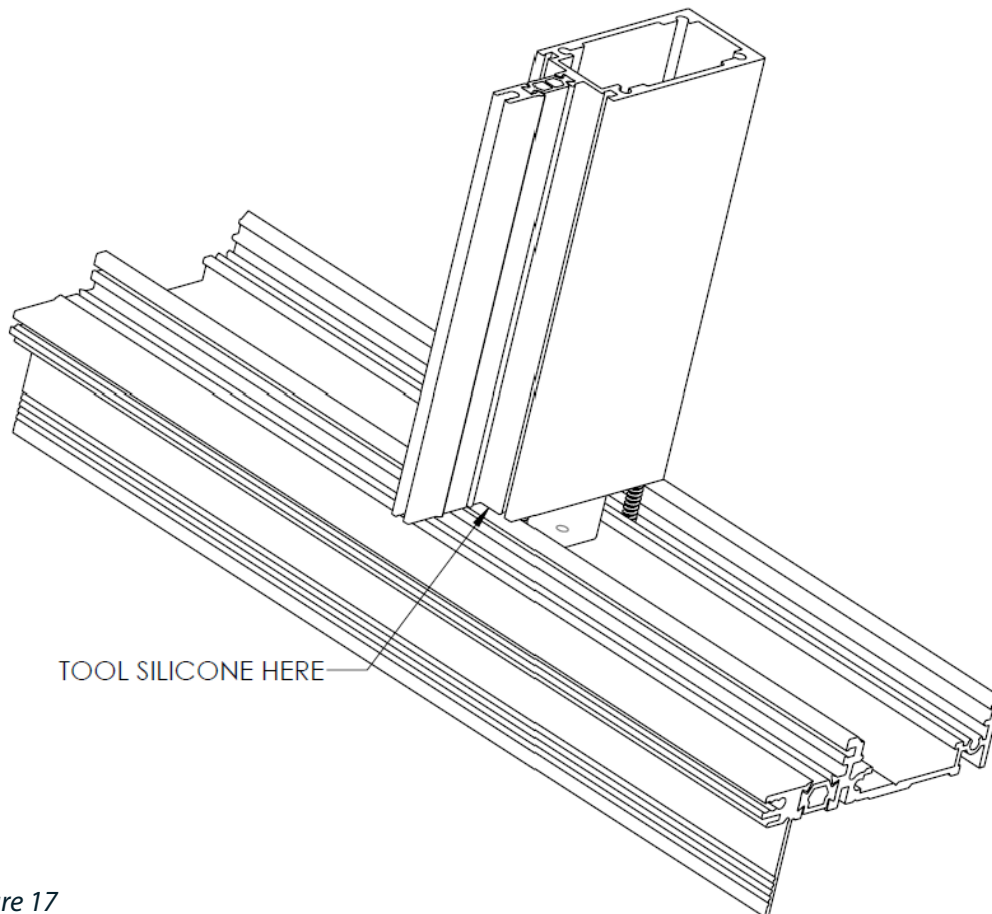

Figure 17
9. Place the Horizontal T-bar over the brackets on the perimeter frame with the open side facing toward the sill (which will be facing down when the product is finally installed). Assemble the horizontal T-bars onto the Perimeter frame from below using (2) #10 x 5/8" screws through the wind bracket and (2) #10 x 1 1/2" screws through the pre-drilled holes in the perimeter frame into the screw bosses on the horizontal T-bar. If the opposite end of the horizontal T-bar is attached to a vertical T-bar, follow the same process outlined in step 6.
11. At each location where the weather strip joins at the intersection, and at each face where two frame members meet, apply a generous amount of Dow 795 sealant or equivalent and tool sealant to ensure a continuous watertight seal with no holes or voids. Apply and tool sealant over all vertical load screws and all assembly screws that penetrate the perimeter frame. (See Figure 17).